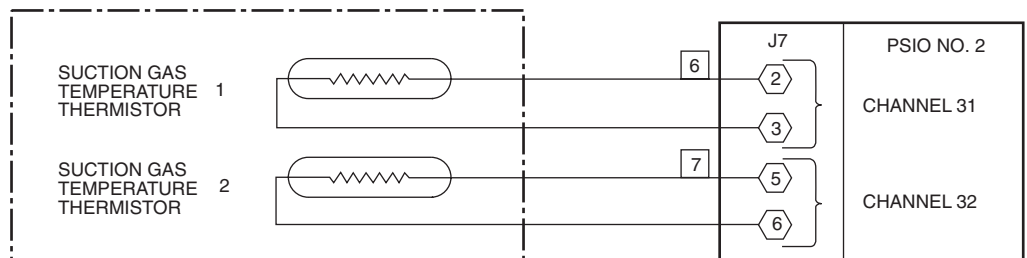

Fig. 100 — Transducer/Thermistor
- Refrigerant transducer/thermistor (Fig. 100)